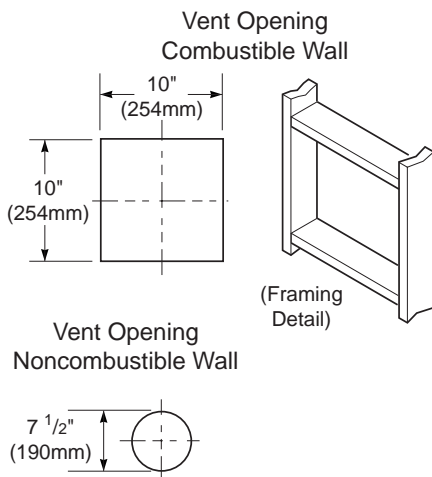

Figure 13 - Vent Opening Requirements
- Attach vent pipe assembly to the fireplace. Set fireplace in front of its permanent location to insure minimum clearances. Mark the wall for a 10" square hole (for noncombustible material such as masonry block or concrete, a 7 1/2" diameter hole is acceptable). See Figure 13. The center of the hole should line up with the center-line of the horizontal rigid vent pipe. Cut a 10"x10" (254mm x 254mm) square hole through combustible exterior wall (7 1/2" [190mm] diameter hole if noncombustible). Frame as necessary (see Figure 13).
1. Cut a 10" square hole in the ceiling using the locating hole as a center point. The opening should be framed to 10"x10" (254mm x 254mm) inside dimensions, as shown in Figure 13 on page 9 using framing lumber the same size as the ceiling joists. If the area above the ceiling is an insulated ceiling or a room, nail firestop from the top side. This prevents loose insulation from falling into the required clearance space. Otherwise, install firestop below the framed hole. The firestop should be installed with no less than three nails per side (see Figure 23).
3. Cut a hole in the roof using the locating hole as a center point. (Cover any exposed open vent pipes before cutting hole in roof.) The 10"x10" hole must be measured on the horizontal; actual length may be larger depending on the pitch of the roof. There must be a 1" clearance from the vent pipe to combustible materials. Frame the opening as shown in Figure 13 on page 9.